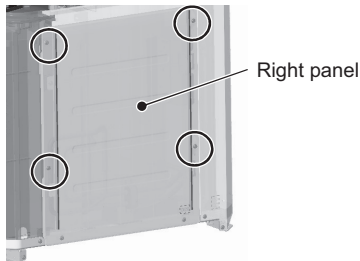
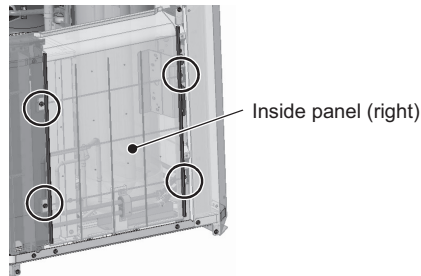
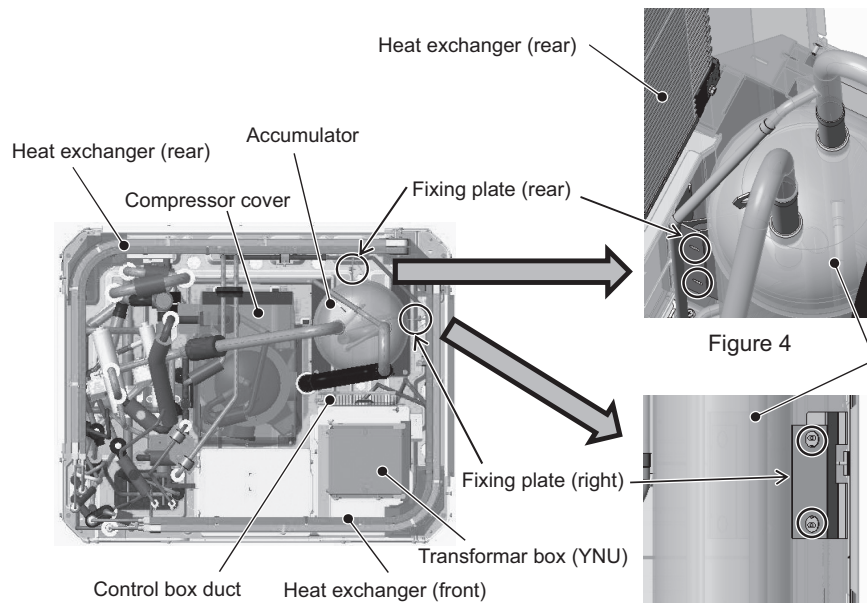
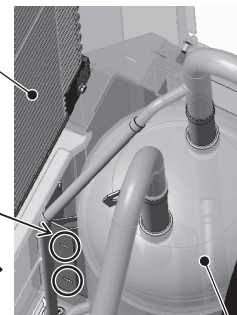

Figure 1
Figure 2
Figure 3
Figure 4
- (1) Remove the front heat exchanger. Refer to 8-13-9 Maintenance Procedures for the Heat Exchanger for details.
- (2) Remove the top, front, and right compressor covers. Refer to 8-13-5 Compressor Replacement Procedure for details.
- (3) Remove the duct from the control box. Refer to the control box replacement procedure for details.
- (4) Remove the right and inside (right) panels by unscrewing the eight screws. (See Figures 1 and 2.)
- (5) Unscrew the two screws from the right accumulator fixing plate. (See Figures 3 and 5.)
- (6) Unscrew the two screws from the rear accumulator fixing plate. (See Figures 3 and 4.)
<p><KB type, J type, and 4-, 6-, 8-branch types></p> <ol style="list-style-type: none"> 1) Remove the control box by unscrewing the four fixing screws. (Figure 1) 2) Unscrew the four service panel fixing screws. (Figure 2) 3) Remove the top panel by unscrewing the nine fixing screws. (Figure 2) <p><For J-type, 12- and 16-branch types, JA-type, and KA-type></p> <ol style="list-style-type: none"> 1) Remove the service panel (1) by unscrewing the two fixing screws. (Figure 3) 2) Remove the control box by unscrewing the four fixing screws. (Figure 3) 3) Remove the top panel by unscrewing the 10 fixing screws. (Figure 4) 4) Remove the service panel (2) by unscrewing the two fixing screws. (Figure 4) 	<p>Figure 1: Control Box</p> <p>Figure 2: Ceiling panel, Service panel</p> <p>Figure 3: Control Box, Service panel (1)</p> <p>Figure 4: Ceiling panel, Service panel (2)</p>
<p>1) Remove the fixing screw on the long side of the bottom panel. (Four places encircled by circles in Figure 1)</p> <p>2) To prevent the bottom panel from falling, of the four screws indicated with triangles in Figure 1, only loosen (but not remove) the two screws that are diagonally located or on the opposite ends of the long side of the panel (either (1) and (3), (2) and (4), (1) and (4), or (2) and (3)). Remove the two remaining screws.</p> <p>3) As shown in the enlarged view of Figure 1, the fastening screw hole on the short side looks like two circles in different shape joined together (double-snowman shape). Slide the bottom panel in the direction of the arrow, and remove it in the downward direction. (Figure 2)</p> <p>4) When removing the drain pan, hold the protruded area of the panel or the socket and pull it straight down, using caution not to let it come into contact with the sheet metal. (Figure 3) If the drain pan comes into contact with the sheet metal, the drain pan may be scraped, leading to water leakage.</p> <p>Installing the bottom panel</p> <p>1) Of the four screws indicated with triangles in Figure 1, partially tighten the two screws that are diagonally located (either (1) and (3), or (2) and (4)).</p> <p>2) Thread the screw into the double-snowman shaped hole, move the panel in the opposite direction as when it was removed in step 3) above, set the screw into the smaller circle, and tighten the screw to hold the panel in place.</p> <p>3) Tighten the remaining screws.</p> <p>Note Do not stay directly underneath the unit when working with the bottom plate. Remove the drain piping to remove the drain pan. Check that no water has accumulated in the drain pan.</p>	<p>(Figure 1) Bottom panel</p> <p>(Enlarged view of Figure 1)</p> <p>(Figure 2)</p> <p>(Figure 3) Protrusion Socket Drain pan</p>